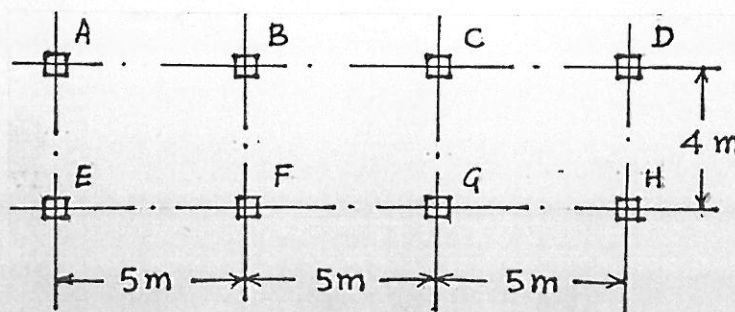

Figure 1
2. Design rib beams connecting columns A-D-E-H and B-C-F-G for a raft foundation for 8 columns spaced as shown in figure 1. All columns are $400\text{mm} \times 400\text{mm}$ in size. Columns A, D, E & H carry a load of 820KN each and columns B, C, F & G carry a load of 1025KN each at service condition. The safe bearing capacity of soil is 100KN/m^2 . (17)
3. Design an elevated circular water tank for a storage capacity of $360,000$ liters with hinged joint at the base. Also design top dome and top ring beam. Use concrete of grade M20 and steel of grade Fe415. (16)